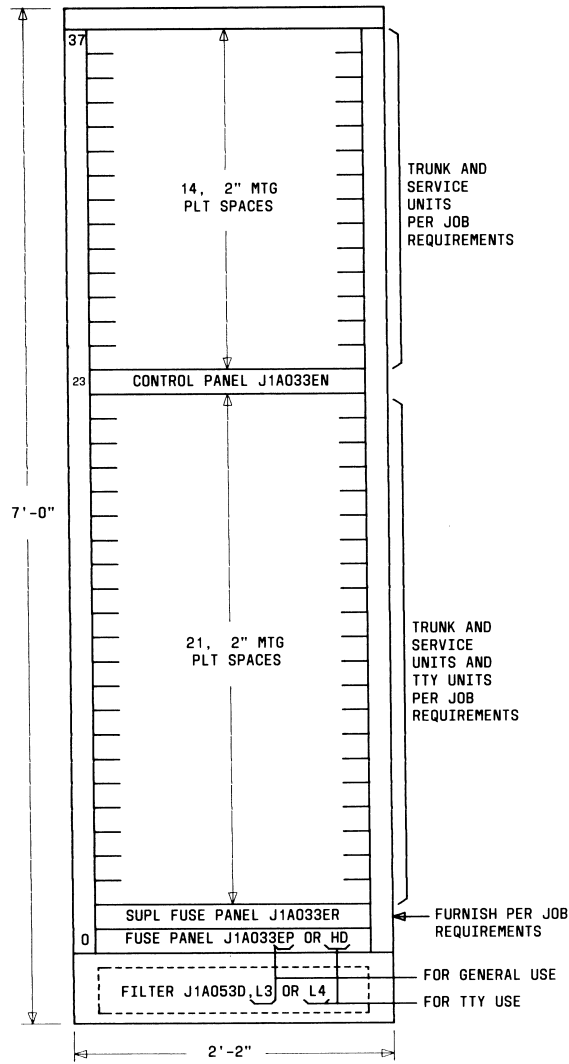

Fig. 5—Miscellaneous Trunk Frame
**2.11** The miscellaneous trunk (MT) frame (Fig. 5) is a single bay frame 2 feet 2 inches wide and 7 feet high. The frame has thirty-six 2-inch mounting plate spaces used for mounting trunk and service circuits. The MT frame mounts those trunk and service circuits which do not fit the universal pattern required for mounting on the universal trunk frame (UTF). Those circuits on the MT frame are cabled via unit terminal strips to their associated master scanner, signal distributor and distributing frame terminations.